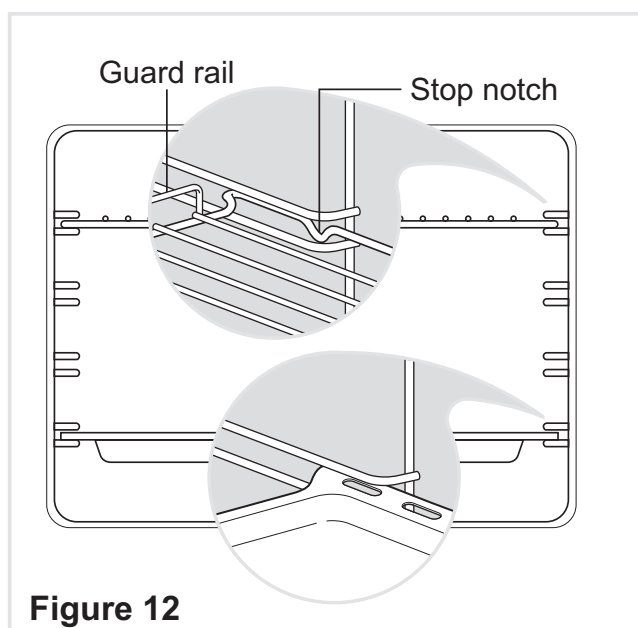

Figure 12
- Slide in, on the guides, the shelf and the tray (fig. 12).